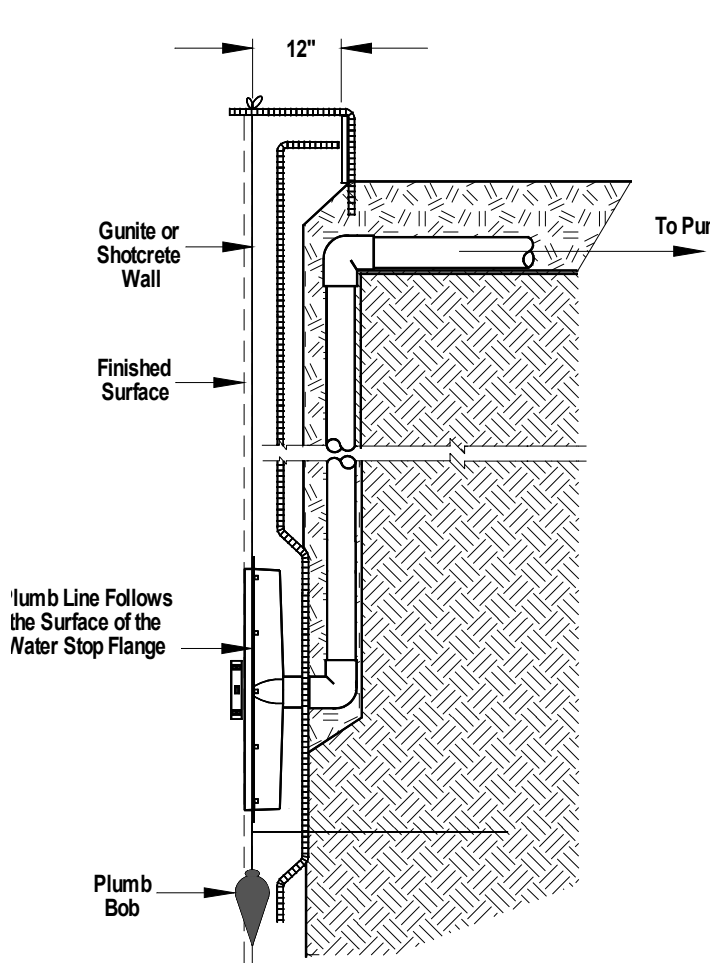

Figure 2
6. When the Channel Drain is installed properly, the plumb line will pass along the flat water stop flange on the Channel Drain (see Figure 2). **SUGGESTION:** The parts should be "dry fitted" before gluing to assure that the proper positioning of the Channel Drain is achieved. (a.) The Channel Drain finishes along the plumb line assuring that it is at the proper depth (b.) The Channel Drain finishes level vertically and horizontally.
- When installing the “steel basket” around and behind the Channel Drain, the rebar must be bent and formed so that the “basket” is behind and not touching the Channel Drain (see Figures 2 and 3).